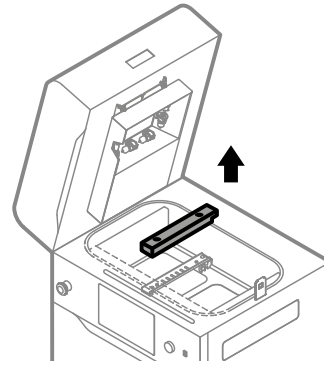

Fig. 10.4 Remove the black Recoater cover.
8. Gently remove the black cover from Recoater (fig. 10.4).